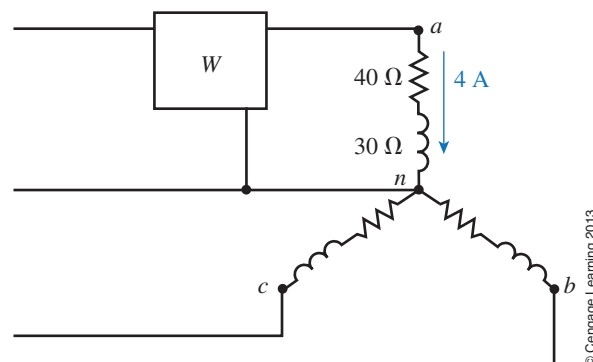

FIGURE 24–55
47. For Figure 24–47, the generator phase voltage is 120 volts.